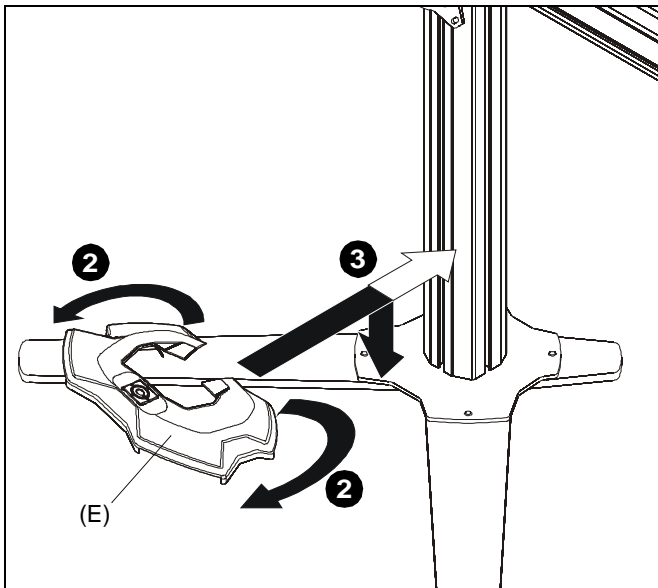

Figure 2
2. Carefully manipulate base cover (E) to create an opening large enough to wrap cover around array column. (See Figure 2)
3. Wrap base cover around column and slide it down until base cover fits securely onto table top base (C). (See Figure 2)